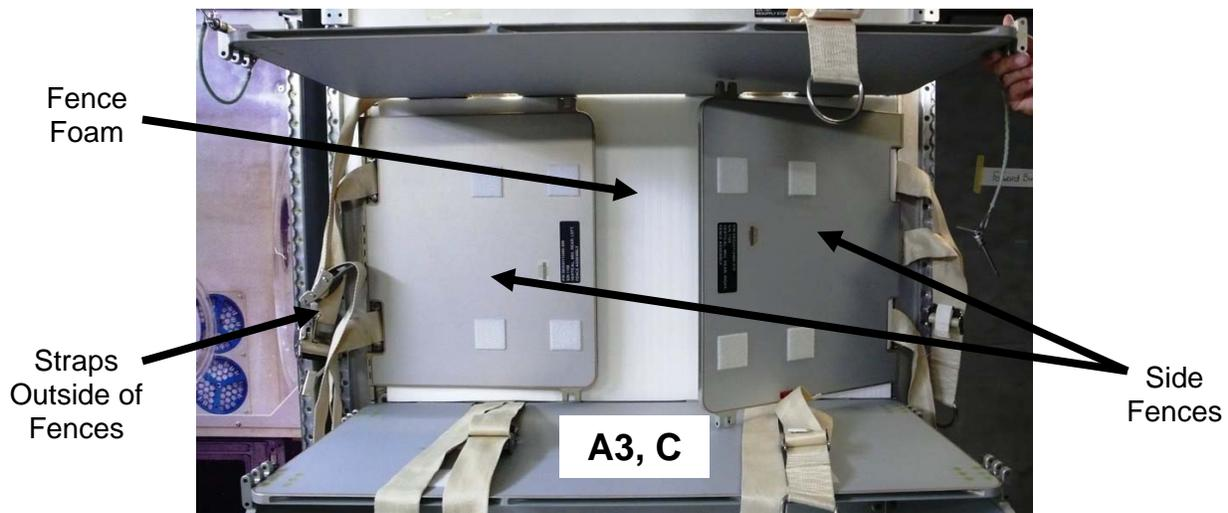

Figure 1.- Fence Foam installed in "A" Location against RSP; Side Fences Folded.
4. Relocate all RSP straps from inside of Fences to outside. Refer to Figure 1.
6. Place Fence Foam piece (one) in the "A" location against the RSP. Refer to Figure 1.
7. Fold "A" location side Fences (two). Refer to Figure 1.